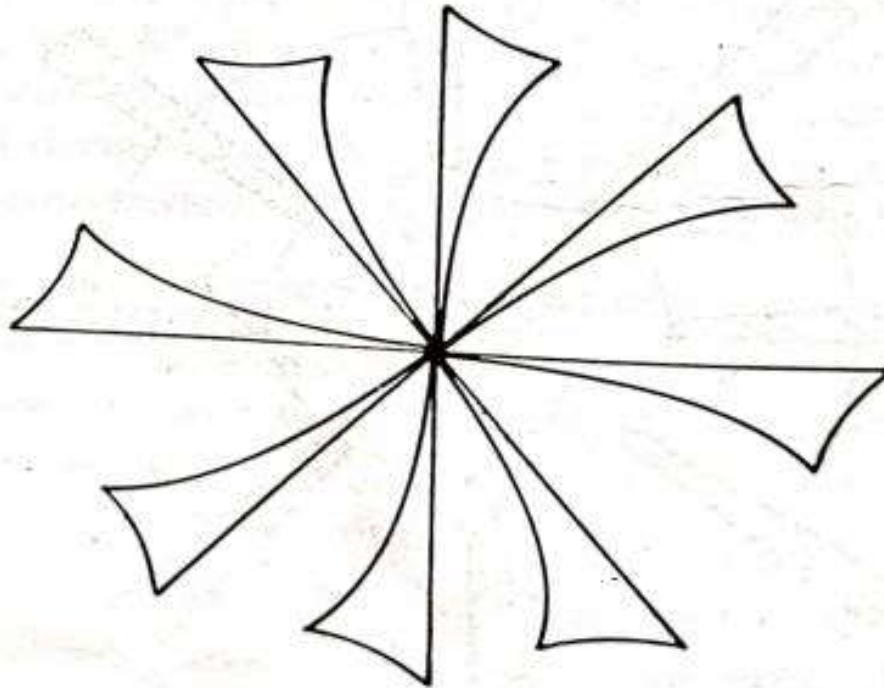

Fig. 6.8.5. Blades of sail type wind mill.
- Its blade are shown in figure 6.8.5. It is of recent origin and the blade surface is made from cloth, nylon or plastics arranged as sailwings.